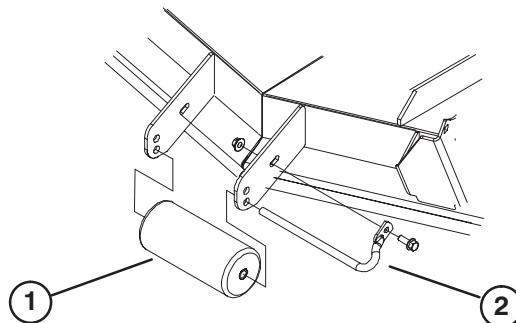

Figure 11
1. Remove the bolt and nut securing the roller shaft to the cutting unit bracket (Fig. 11).